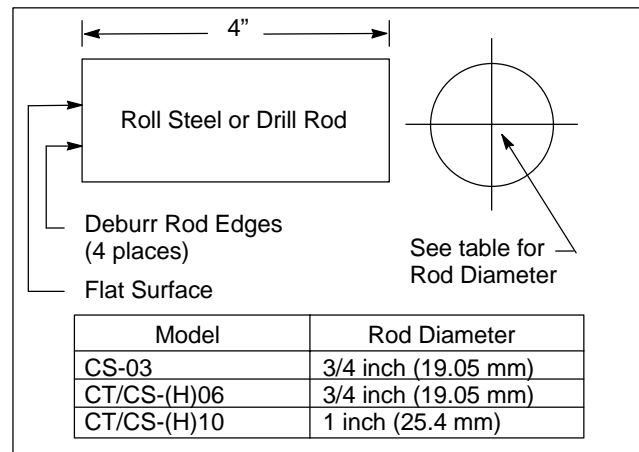

Figure 3. Disassembly Tool to Remove Seat (19) from Body (21)
1. A piece of drill rod or roll steel to remove the seat within the valve body. See Figure 3.
8. Remove four screws (13) from cover (14), then disassemble the cover from body (21).
9. Remove parts (15) through (18) from body (21). Inspect piston (18) sealing surface for heavy scratches and other damage. Discard seal (15).
10. If piston (18) is damaged, turn valve body (21) in vise so tank port faces up. Insert a rod (reference Figure 3) into the tank port against seat (19). Tap on rod end with hammer and remove the seat (19) from body (21). For C*-H**-30/50 models, insert rod against sleeve (20) and remove sleeve and seat at the same time.